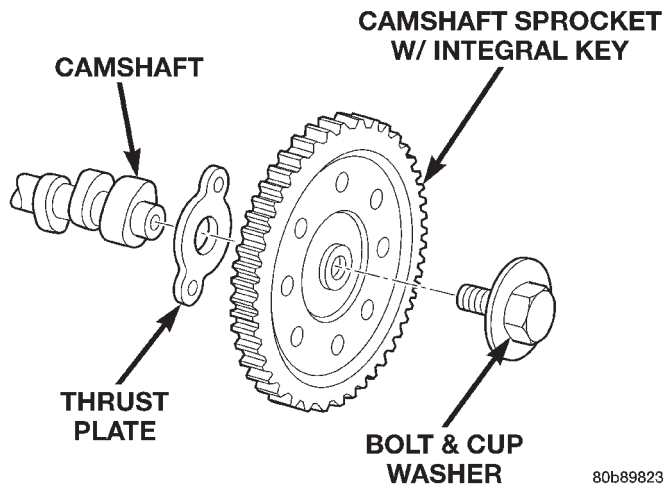

Fig. 43 Camshaft Sprocket and Thrust Plate
(7) Remove the oil slinger from the crankshaft.
(8) Remove the camshaft sprocket bolt and washer (Fig. 43).
(9) Remove the crankshaft sprocket, camshaft sprocket and timing chain as an assembly.
(10) Installation of the timing chain with the timing marks on the crankshaft and camshaft sprockets properly aligned ensures correct valve timing. A worn or stretched timing chain will adversely affect valve timing. If the timing chain deflects more than 12.7 mm (1/2 inch) replace it.
(1) Apply Mopar Silicone Rubber Adhesive Sealant to the keyway in the crankshaft and insert the key. With the key in the keyway on the crankshaft, install the assembly on the crankshaft and camshaft.
(2) Install the camshaft sprocket bolt and washer (Fig. 43). Tighten the bolt to 68 N·m (50 ft. lbs.) torque.